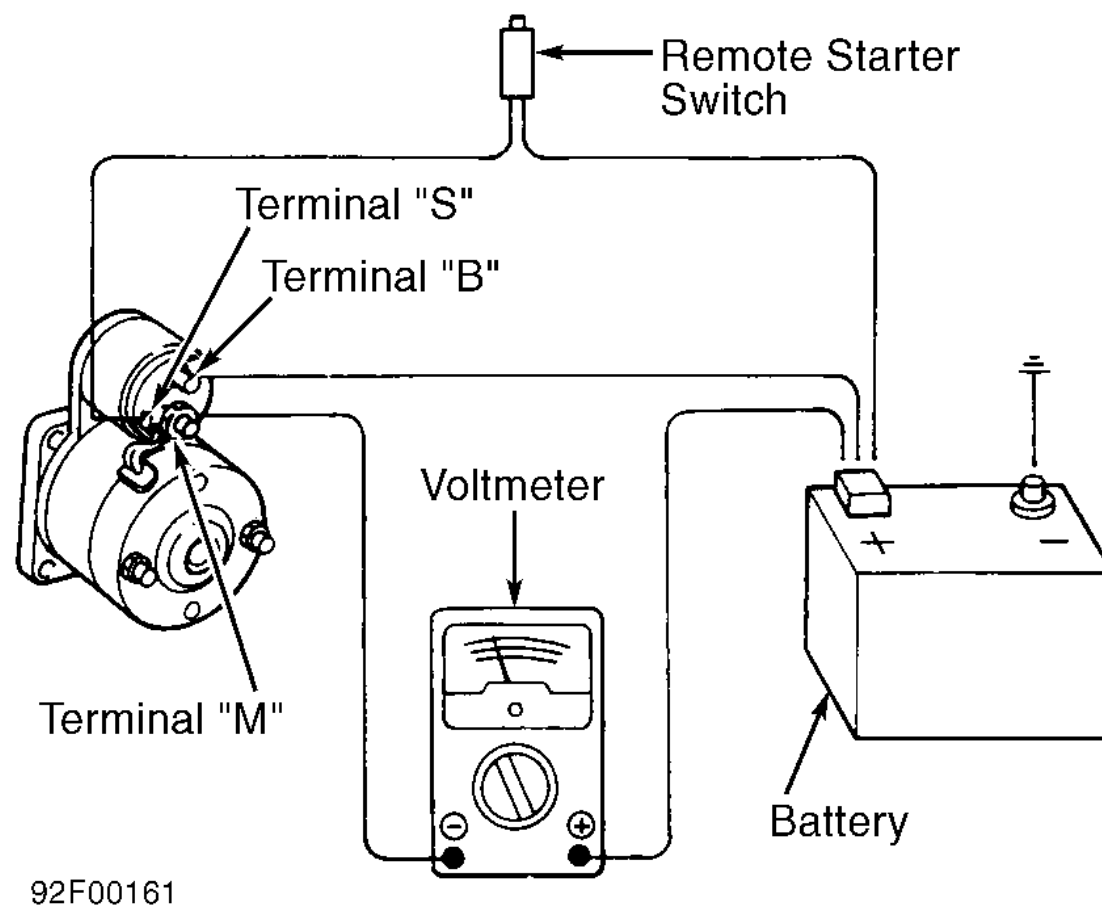

Fig. 3: Testing Voltage Drop
1. Disconnect and ground coil wire from distributor cap to prevent engine from starting. Connect remote starter switch between starter solenoid terminal "S" and battery positive terminal. See Fig. 3.
2. Using a digital voltmeter set on low scale, connect positive voltmeter lead to battery positive terminal. Connect negative lead to starter solenoid terminal "M". See Fig. 3.